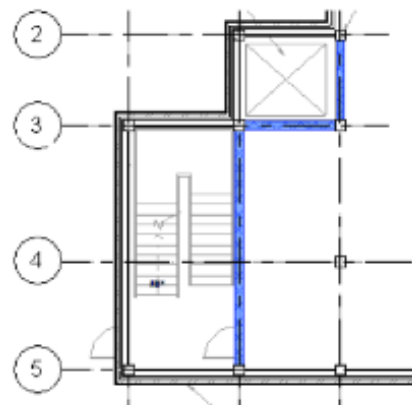

Figure 4–24
6. Draw the stair and elevator walls from column to column, as shown in Figure 4–24.